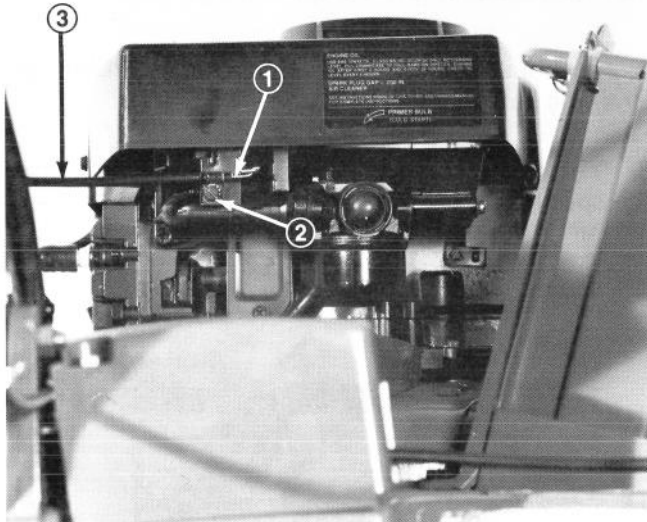

Figure 41
2. Loosen cable clamp screw until throttle cable is free to slide (Fig. 41).
3. Move carburetor control arm to the left until it contacts grounding bracket (Fig. 41). Pull throttle cable slightly to remove any slack and tighten the cable clamp screw to lock the adjustment in place.